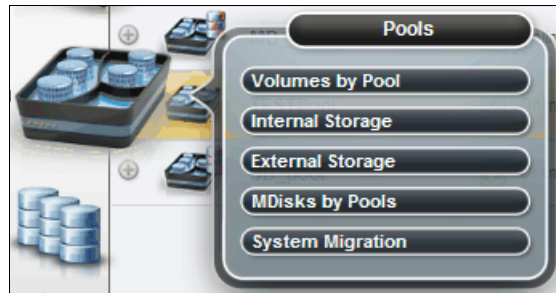

Figure 10-19 Pools menu
1. Hover your cursor over the Pools icon. The system displays the Pools menu (Figure 10-19).